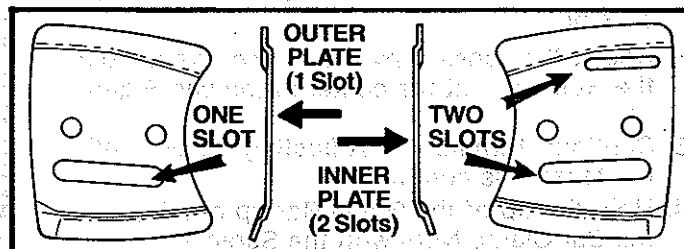

Figure 8
**NOTE:** Be sure the inner Guide Plate curves or flanges toward the saw frame away from the Guide Bar. Figure 8.